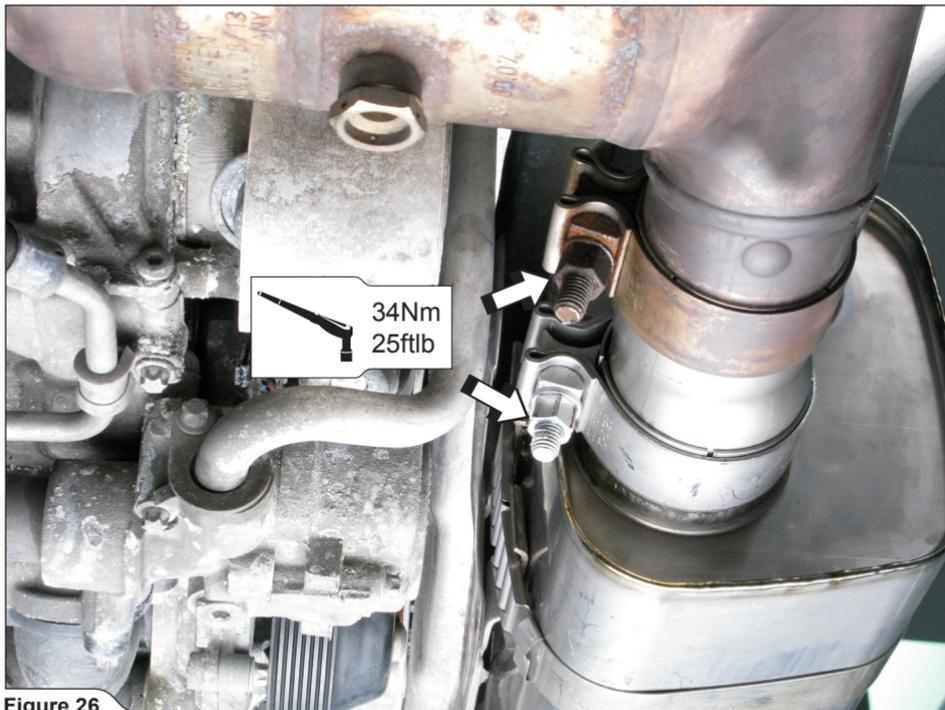

Figure 26
12. **For Slip-On only:** tighten the marked link pipes' and Slip-On adapters' clamps to a specified torque, on both sides of the vehicle (**Figure 26**).